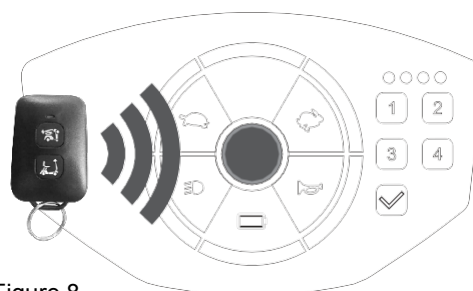

Figure 8
- Once scooter is unlocked (power green light on), press and hold the (E) key for 3 seconds. The pad light will be flashing three times.
- Enter your password on number pad (D). The password can be a 1-4 digits number. Digits can be repeated. Light indicator (C) will light up each time the number is entered.
- Press (E) on the pad when password entering is finished. Pad light will be flashing three times.
- To unlock, place the RF remote to the panel (spot near power switch for best reading result). (Figure 8)